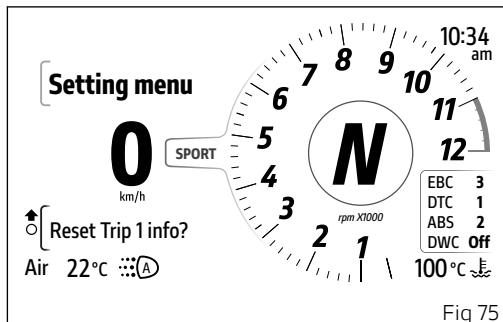

Fig 75
The trip information "Trip 1", "Ø cons.1", "Ø speed 1" and "Trip 1 time", when selected, can be reset by pressing the ENTER button (3): the message "Reset Trip 1 info?" is displayed (Fig 75).